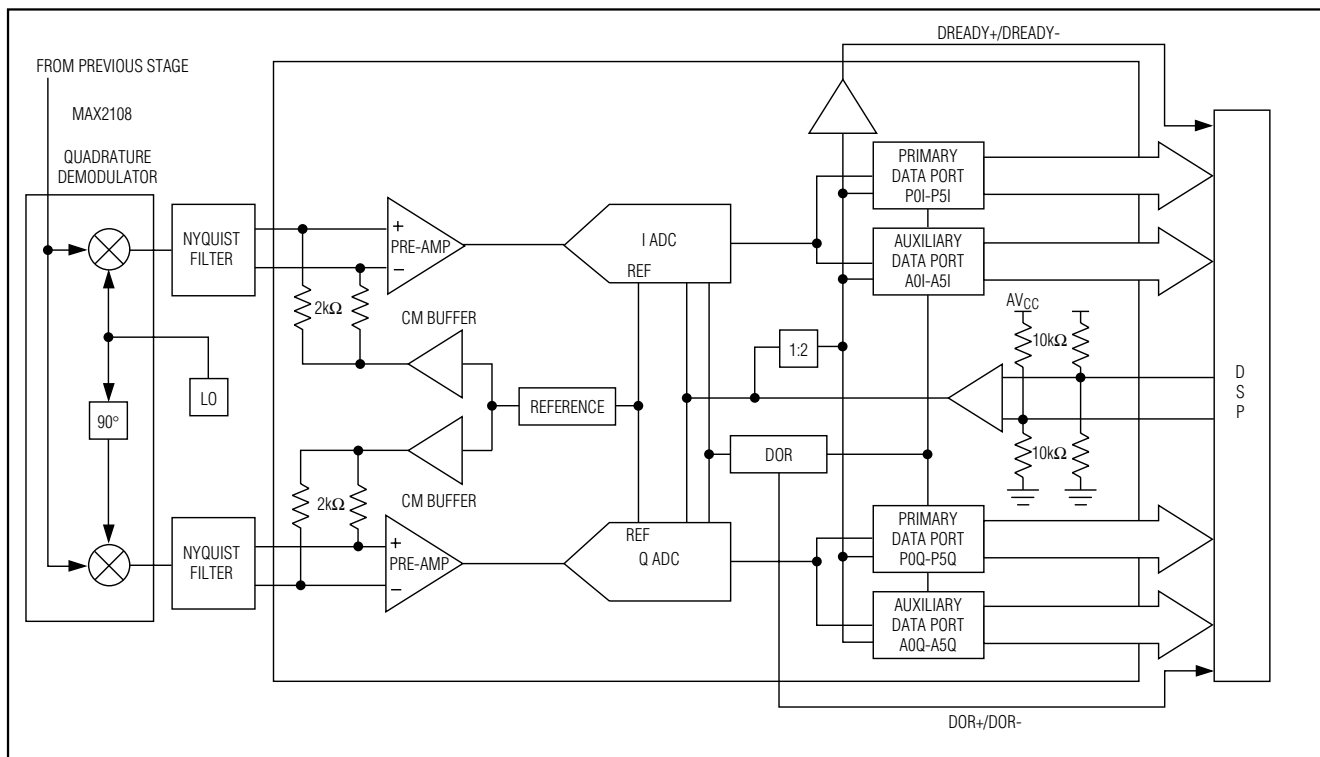

Figure 8. Typical I/Q Application
amplitude and phase. With a demodulator, this QAM signal gets downconverted and separated in its in-phase (I) and quadrature (Q) components. Both I&Q channels are digitized by an ADC at the baseband level in order to recover the transmitted information. Figure 8 shows a typical application circuit to directly tune L-band signals to baseband, incorporating a direct conversion tuner (MAX2108) and the MAX107 to digitize I&Q channels with excellent phase- and gain-matching. A front-end L-C filter is required for anti-aliasing purposes.